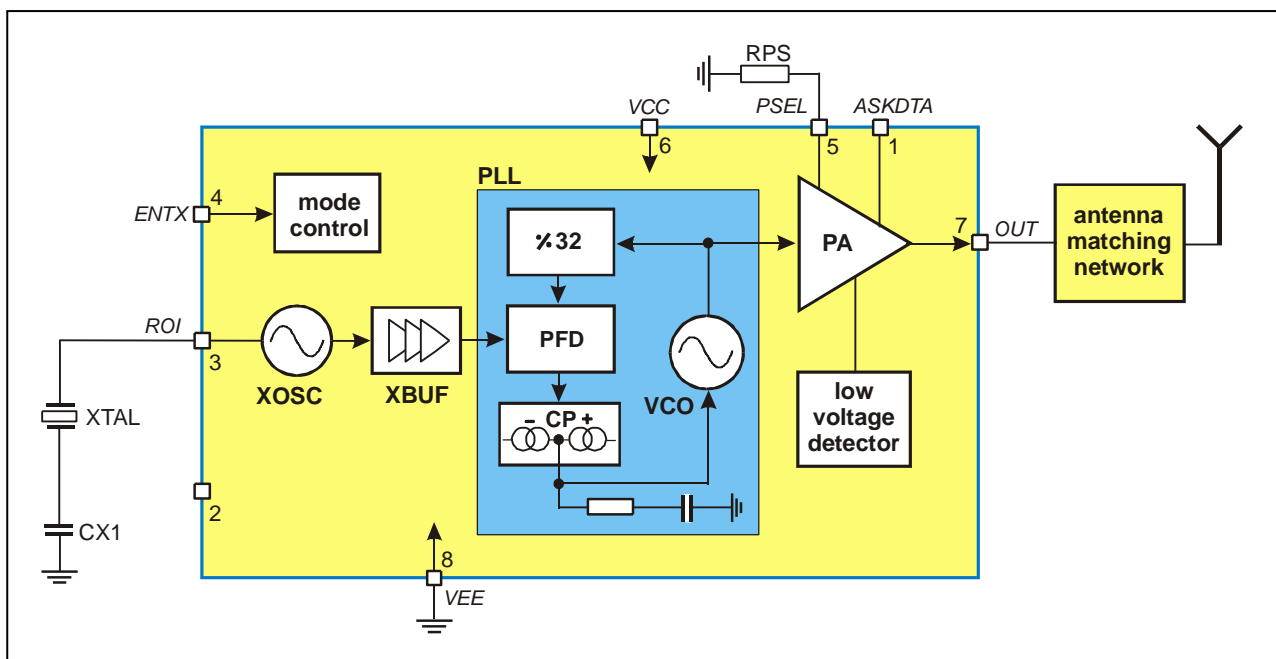

Fig. 1: Block diagram with external components
As depicted in Fig.1, the TH72032 transmitter consists of a fully integrated voltage-controlled oscillator (VCO), a divide-by-32 divider (div32), a phase-frequency detector (PFD) and a charge pump (CP). An internal loop filter determines the dynamic behavior of the PLL and suppresses reference spurious signals. A Colpitts crystal oscillator (XOSC) is used as the reference oscillator of a phase-locked loop (PLL) synthesizer. The VCO's output signal feeds the power amplifier (PA). The RF signal power P_{out} can be adjusted in four steps from $P_{out} = -12$ dBm to +9.5 dBm, either by changing the value of resistor RPS or by varying the voltage V_{PS} at pin PSEL. The open-collector output (OUT) can be used either to directly drive a loop antenna or to be matched to a 50ohm load. Bandgap biasing ensures stable operation of the IC at a power supply range of 1.95 V to 5.5 V.